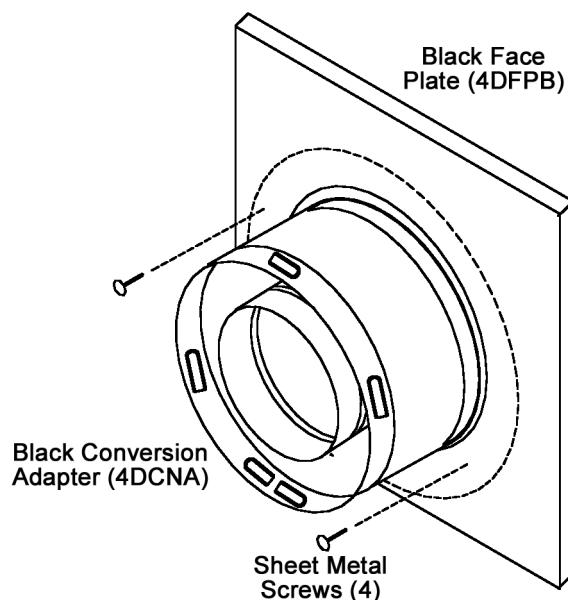

Figure 20
25. Slide the black face Plate onto the conversion adapter, and fasten it to the flat part (ledge) of the adapter with sheet metal screws. See Figure 20.